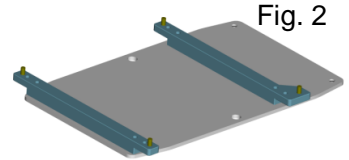

Fig. 2
- 3) The right bar of the link board should be moved to the inside holes when fixing SE-1201. See Fig. 2.